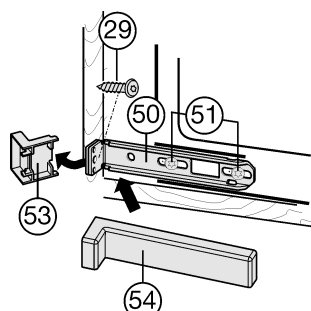

Fig. 24
- ▶ Slightly loosen the screws Fig. 24 (51).
- ▶ Secure the bottom mounting bracket Fig. 24 (50) to the unit wall with a $\varnothing 4 \times 19$ chip-board screw Fig. 24 (29).
- ▶ Break off the protruding end of the cover Fig. 24 (53).
- ▶ Tighten the screws Fig. 24 (51).
- ▶ Place the cover Fig. 24 (54) into position on the bottom mounting bracket Fig. 24 (50).